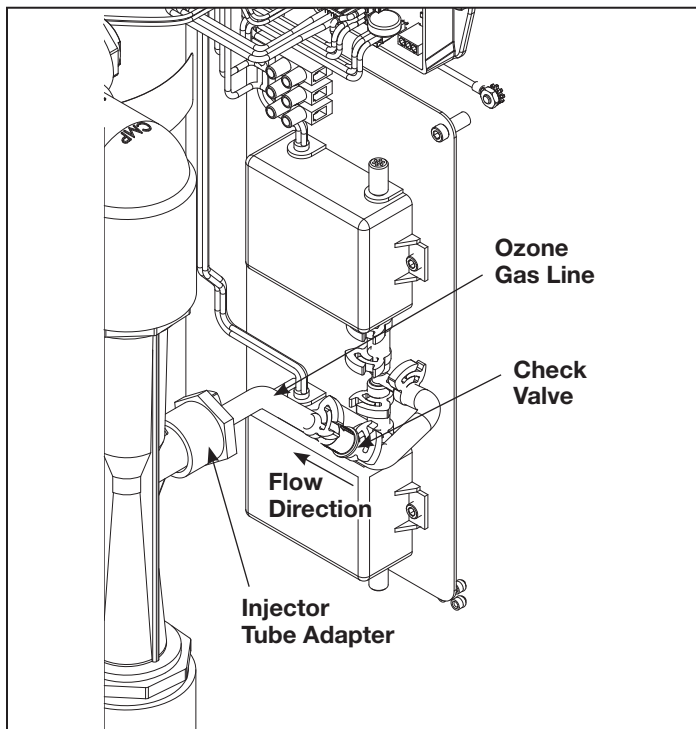

Figure 12. Ozone Generator System Overview Angle View
Gas from the ozone modules is drawn through the ozone gas line by the injector and into the water. The ozone check valve (refer to Figure 12 Angle View) in this line prevents water from migrating back to the ozone modules when the Jandy AOP is not running.
This component connects the ozone gas line to the injector manifold (refer to Figure 12 Angle View). When servicing this component, do not tighten past 10 in-lbs torque or the component may be damaged.
- Disconnect the ozone module by tracing the ozone module power wiring back to the nearest connector and by unlatching hook tab on connector. See Figure 12.